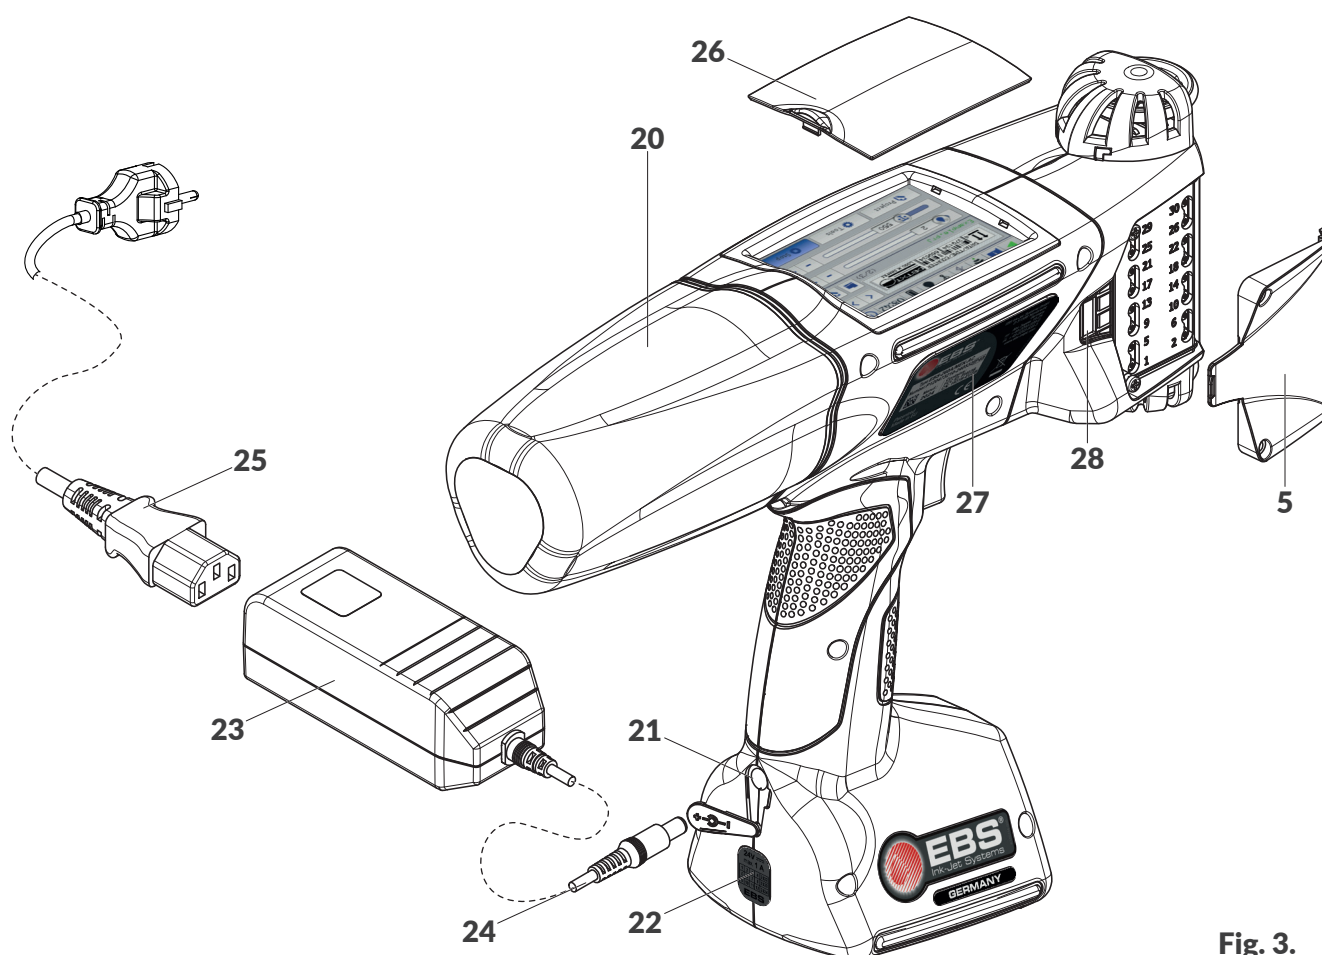

Fig. 3.
* Depending on a given country, power plug may differ from that shown in Fig. 3.
The connector (28; see Fig. 3 on page 15) is accessible from the right or left side of the printer after removing cover plate 5 that protect printing unit adjustment screws.
* Depending on a given country, power plug may differ from that shown in Fig. 3 on page 15.